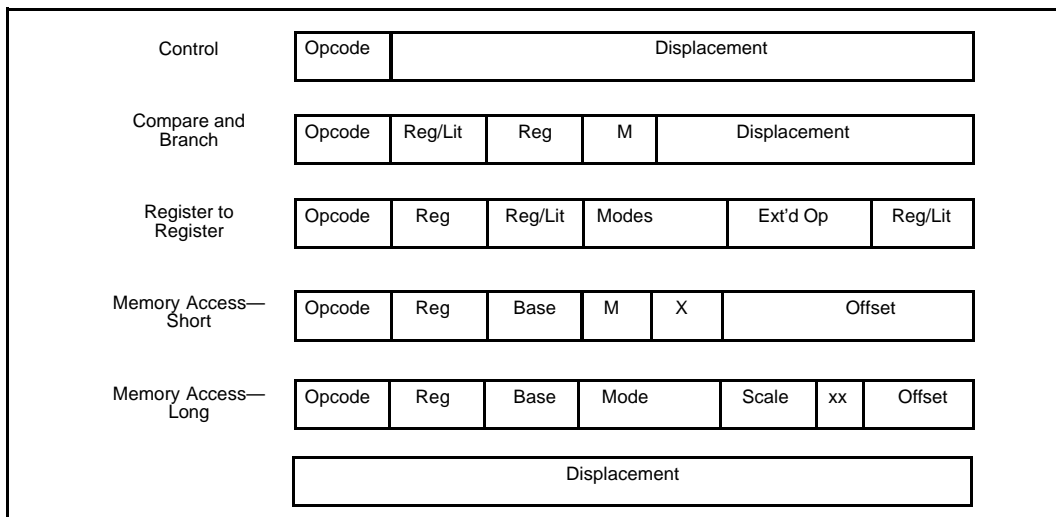

Figure 3. Instruction Formats
4. Simple Instruction Formats. All instructions in the 80960KA are 32 bits long and must be aligned on word boundaries. This alignment makes it possible to eliminate the instruction alignment stage in the pipeline. To simplify the instruction decoder, there are only five instruction formats; each instruction uses only one format. (See Figure 3.)